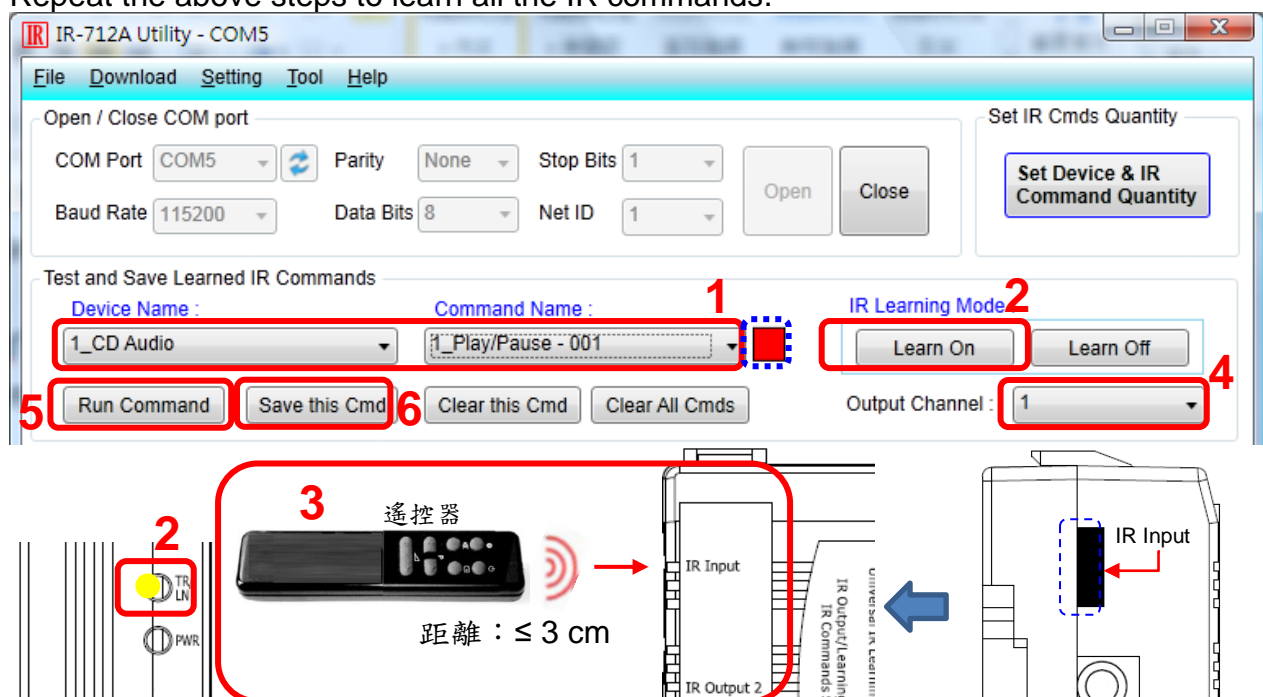

Figure 4-6 The steps to learn IR commands.
Follow the steps below and Fig. 4-6 to learn and test IR commands:
- (1) Determine the IR command for learning by selecting the items in the “Device Name” and “Command Name” combo boxes.
- (2) Click the “Learn On” button to enable the IR learning mode on IR-712A. At the same time, the TR/LN LED is turned on to show the IR learning state.
- (3) Aim the IR emitter head of the device’s remote control at the IR input of IR-712A. The distance less than 3 cm between the remote control and the IR-712A would be best. Then, press the button of the remote control which is to be learned in a short time. If the learning for the IR command is finished, the TR/LN LED will be turned off and the IR learning data will be sent back to the Utility.
- (4) Select the IR output channel. For example in fig. 4-6, the IR output channel is 1.
- (5) Aim the head of the IR emitter cable plugged in the IR output 1 at the corresponding IR-controlled device. Click “Run Command” button to emit the IR command from the IR-712A. You can check if the learned IR command is OK by investigate the action of the appliance. If not, please repeat step 2 and step 3 again.
- (6) Click “Save this Cmd” button to save this IR learning command to the current item of the “Command Name” combo box, e.g. the item is “Play” in figure 4-6.